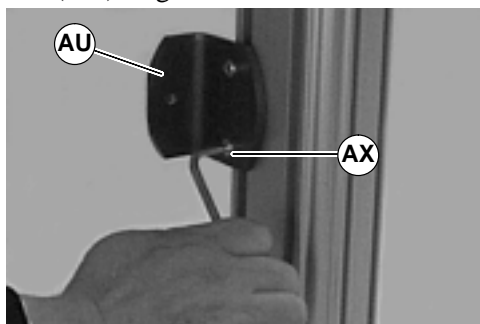

Figure 31
3. Attach brace bracket (AU of Figure 31) with M6 screws (AX). Tighten screws to 9 Nm.